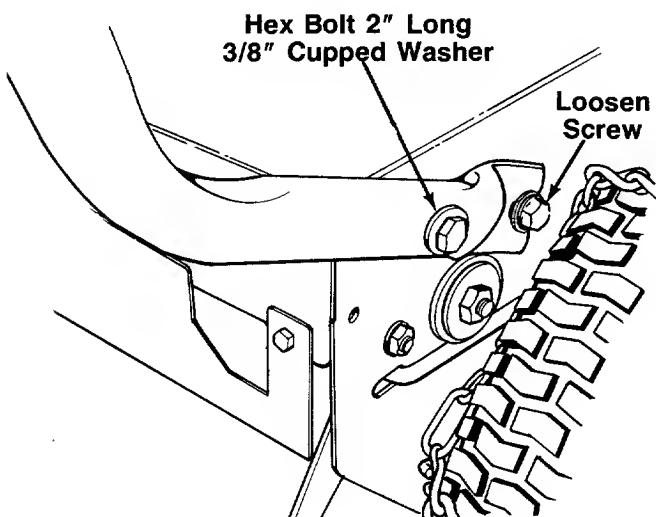

FIGURE 5.
- A. Loosen one self-tapping screw and cupped washer on each side of the unit. See figure 5. A $9/16$ " or adjustable wrench is required.